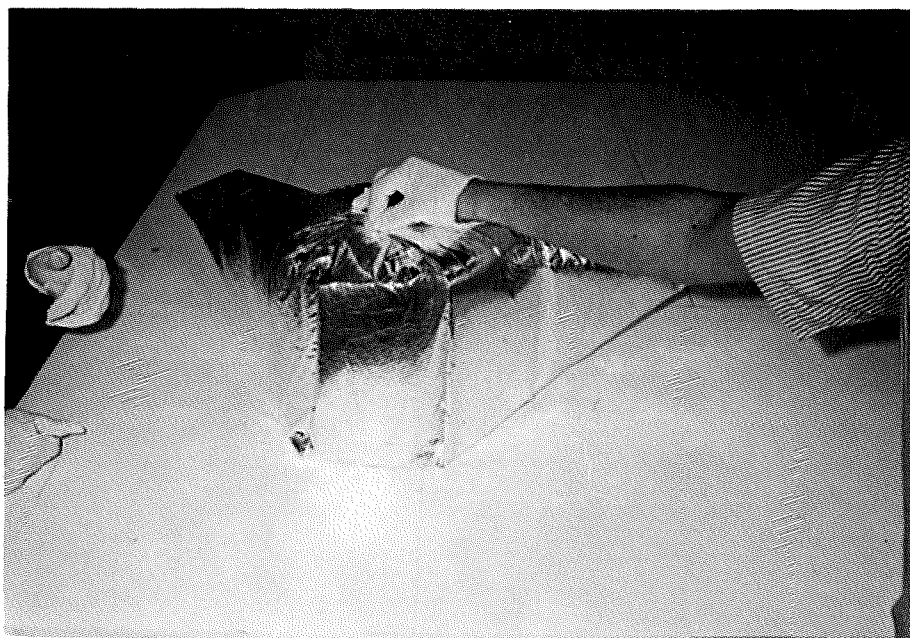
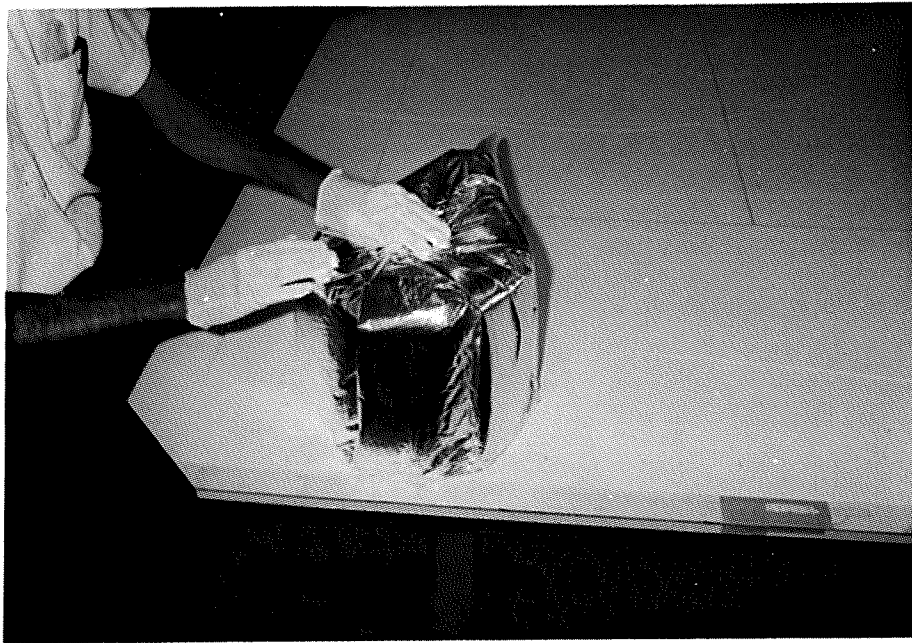

FIG. 8
FIG. 9
STEP 7. Fold up next adjacent hexagon point in same manner as previously, continue holding material in position at top. Be sure that fold lines around cylinder are vertical. See Figure 8. Bring up fourth and fifth point in same manner until shroud is in configuration of Figure 9.